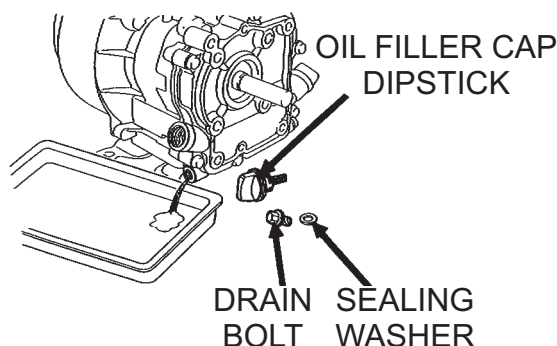

Figure 20. Engine Oil (Draining)
2. Drain the engine oil when the oil is **warm** as shown in Figure 20.